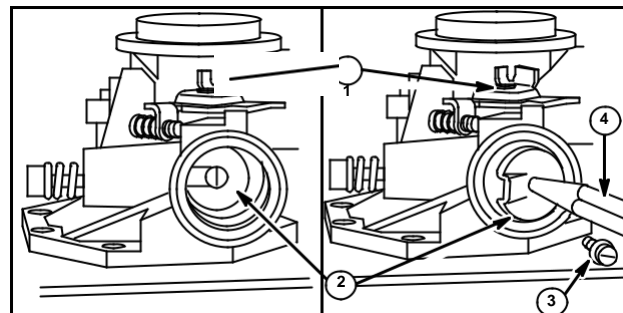

Fig. 22
Throttle shaft, Fig. 22, is removed by backing out idle speed adjusting screw and removing the throttle plate screw (3). After removal of plate, throttle shaft may be lifted out. Throttle (1), throttle plate (2), pencil (4).